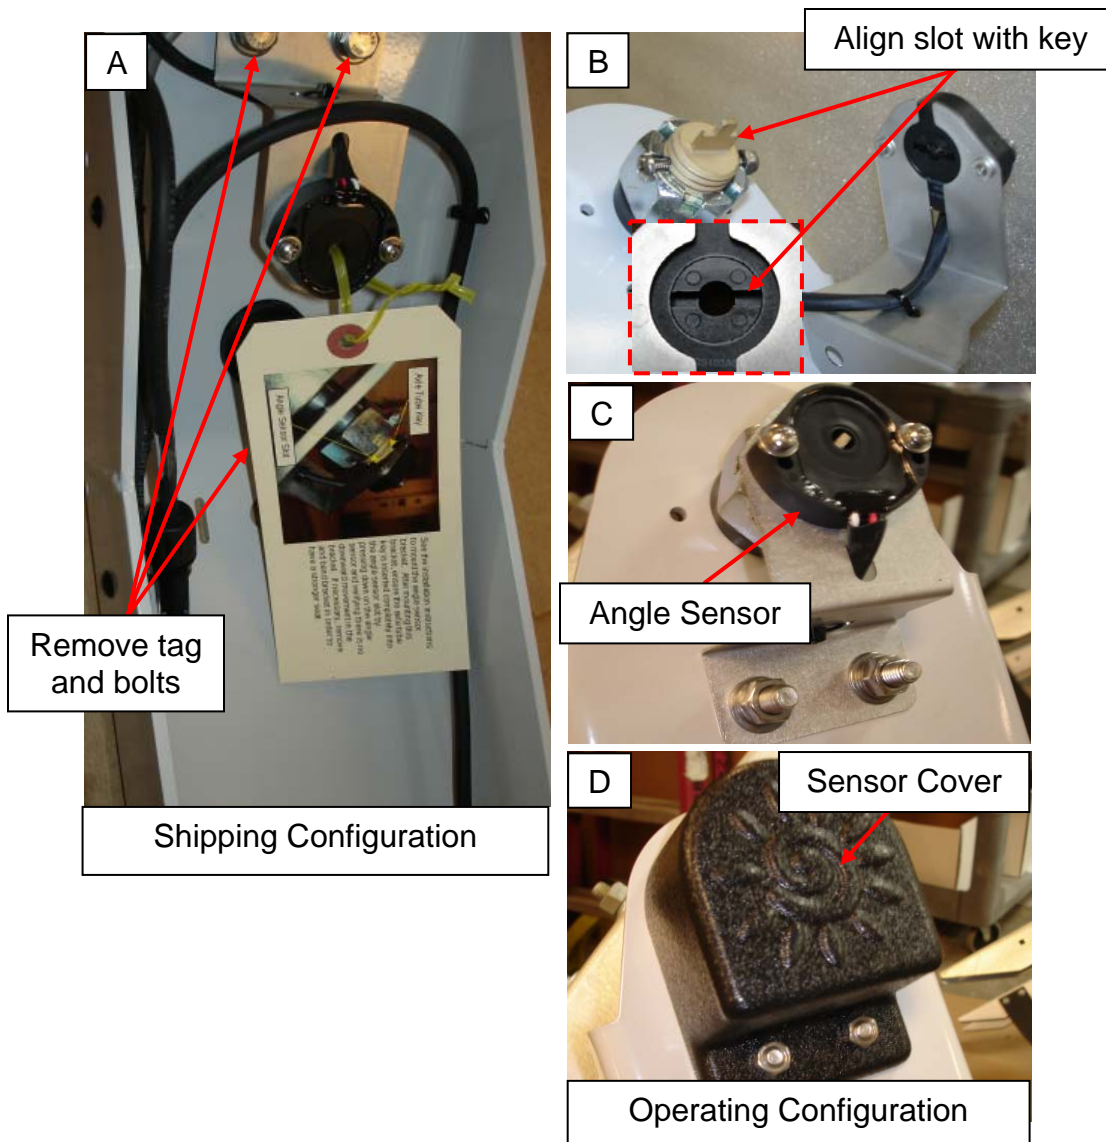

Figure 7
- The Angle Sensor and bracket is temporarily mounted inside the frame to protect it during shipment. To mount the sensor for operation on the outside of the frame, (A) remove the tag and the two bolts that mount the sensor bracket to the frame. (B) Insert the two bolts back into the threaded inserts on the frame, and route the sensor and bracket around the outside and feed the excess cable back through the frame hole. Orient the angle sensor slot to match the axle tube key as shown in Figure 7. (C) Place the bracket on the outside of the frame onto the bolt threads. Use a flat washer, lock washer, and nut on each bolt to fasten the bracket. Ensure the axle tube key is completely seated in the angle sensor slot. (D) Install the sensor cover and fasten using the remaining two nuts as shown.